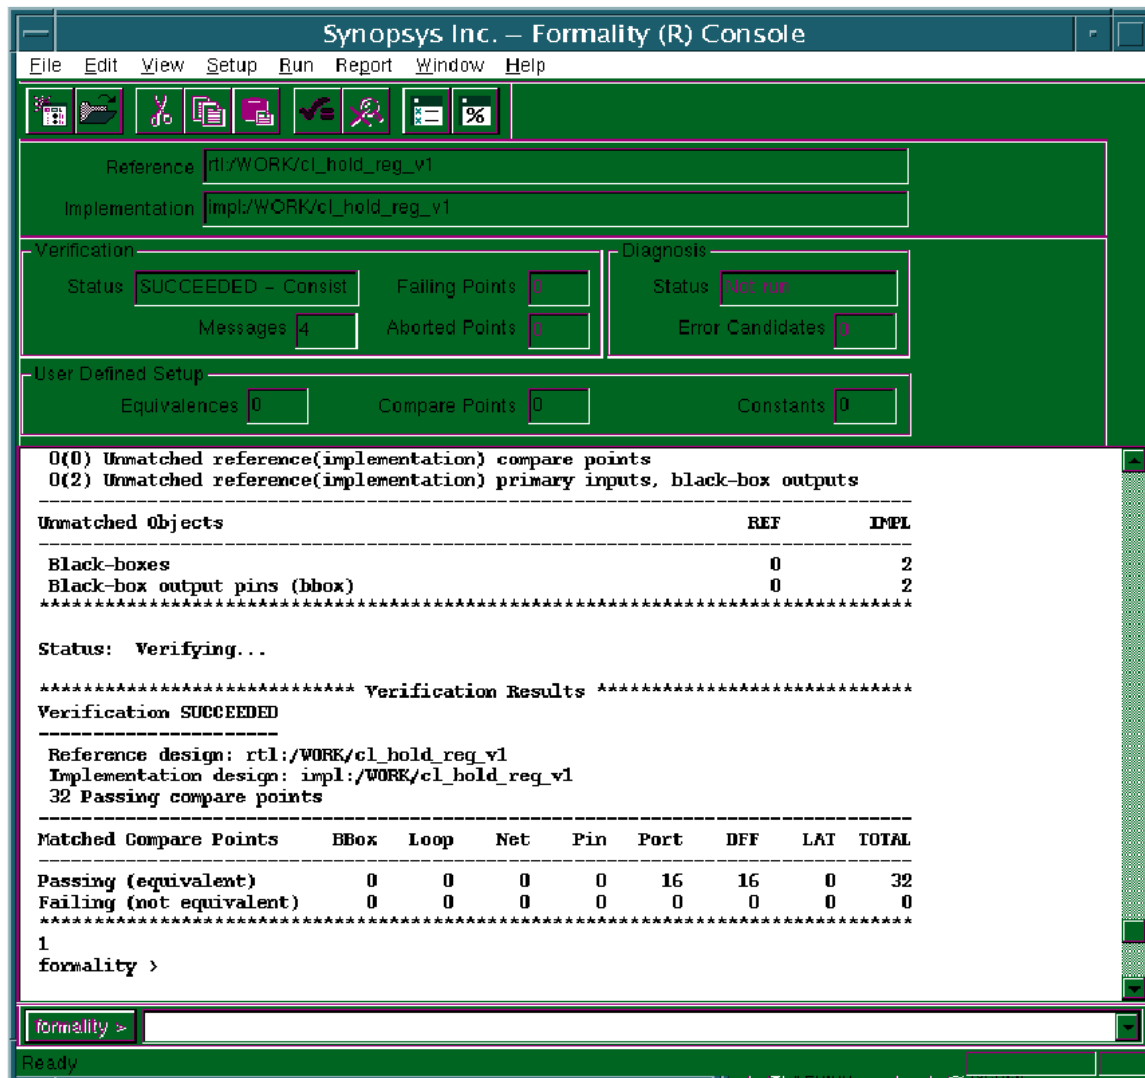

Figure 5: Formality Transcript Showing Results of Verification
20. From the Formality Console window, click Run -> Verify -> All Compare Points. If the designs compare successfully, the result will be shown in the GUI under the "Verification" section, as shown in Figure 5.